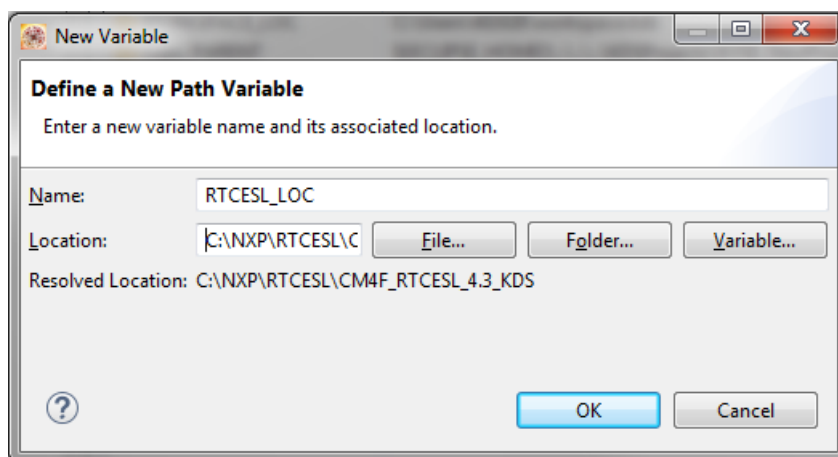

Figure 1-6. New variable
4. In the dialog that appears (see Figure 1-6), type this variable name into the Name box: RTCESL_LOC.